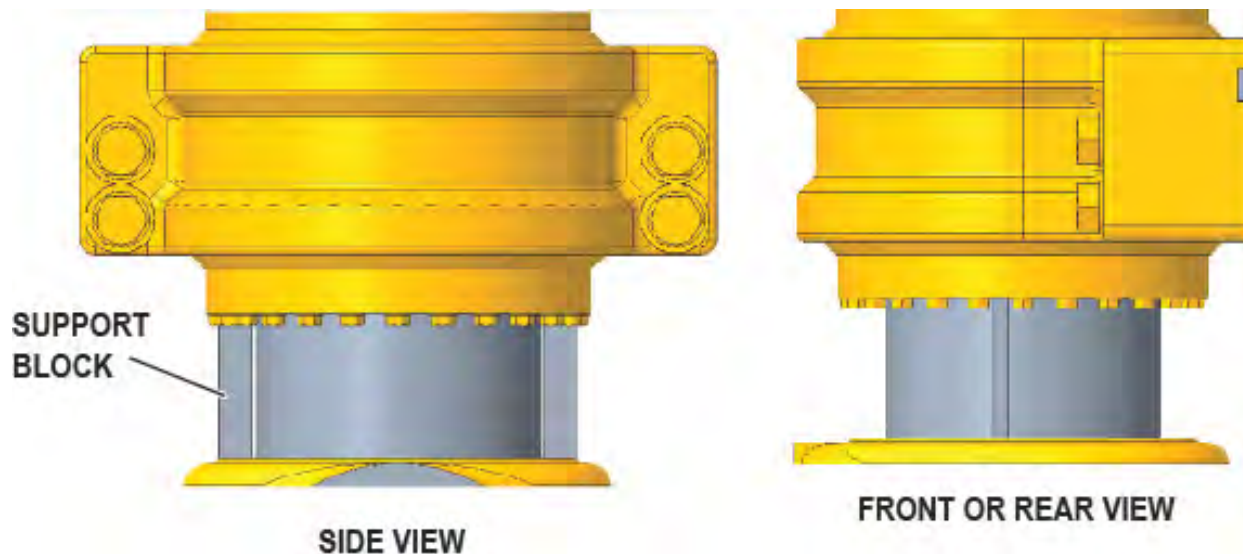

FIGURE 30-13. FRONT SUSPENSION
4. Position and secure the oiling support blocks 180 degrees apart as shown in Figure 30-13. When nitrogen pressure is released, the suspensions will lower and rest on the blocks.
*NOTE: Ensure that the blocks do not mar or scratch the plated surfaces of the pistons or damage wiper seals in the lower bearing retainer. If using locally manufactured support blocks, the blocks must seat on the spindle and the cylinder housing as shown in Figure 30-13, not on the capscrew heads. Komatsu charging blocks, as shown in Figure 30-10, are designed to distribute the load across multiple capscrews.*